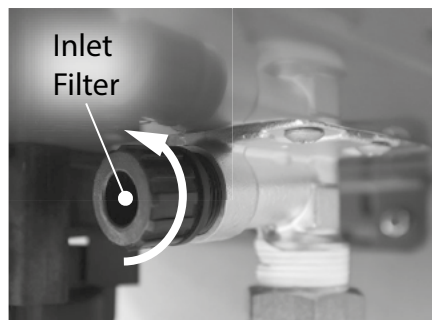

Figure 2 - Locate and remove inlet filter
- 7 Locate and remove the inlet filter as shown in Figure 2 to drain any residual water left in the system. Place a bucket or pan underneath inlet filter to collect water during removal.